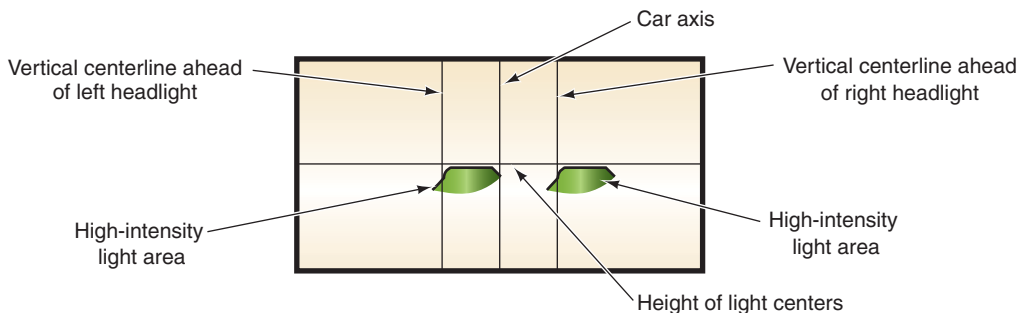

FIGURE 8-7 Low-beam headlight aiming adjustment pattern.
1. Low beam: In the horizontal plane, the left edge of the headlight high-intensity area should be within 4 inches (102 mm) to the right or left of the vertical centerline of the lamp. In the vertical plane, the top edges of the headlight high-intensity area should be within 4 inches (102 mm) above or below the horizontal centerline of the lamp (Figure 8-7).